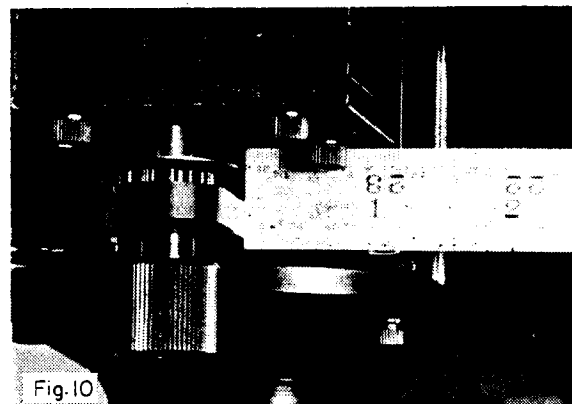

Fig. 10
The adjustment of the drive belt (140) has to be kept in mind at the same time. When the belt is in correct adjustment, there should be 1/8-inch play between the time that you touch the belt with the scale and when you depress it. The tension should be 1 to 7/8 of an inch, leaving a play of 1/8 inch as shown in Figs. 10 and 11.